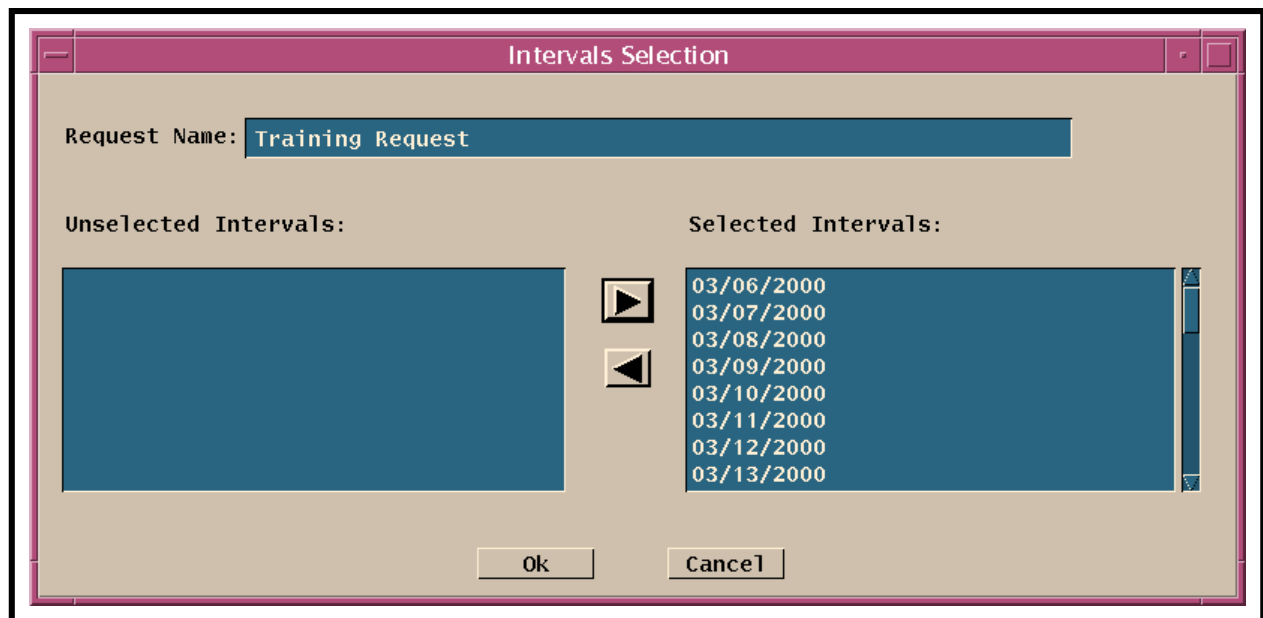

Figure 19. Resource Reservation Intervals Selection GUI
The **Interval...** button on the **Resource Reservation Request Edit/Definition** GUI (Figure 17) allows the person editing the resource reservation request to tailor a **frequency-based** request by overriding selected intervals. When the requester clicks on the **Interval...** button, a **Resource Reservation Intervals Selection** GUI (Figure 19) with the following pair of lists is displayed:
- The **Intervals Selection** GUI (Figure 19) is displayed.
- The **Interval Selection** GUI (Figure 19) is displayed.